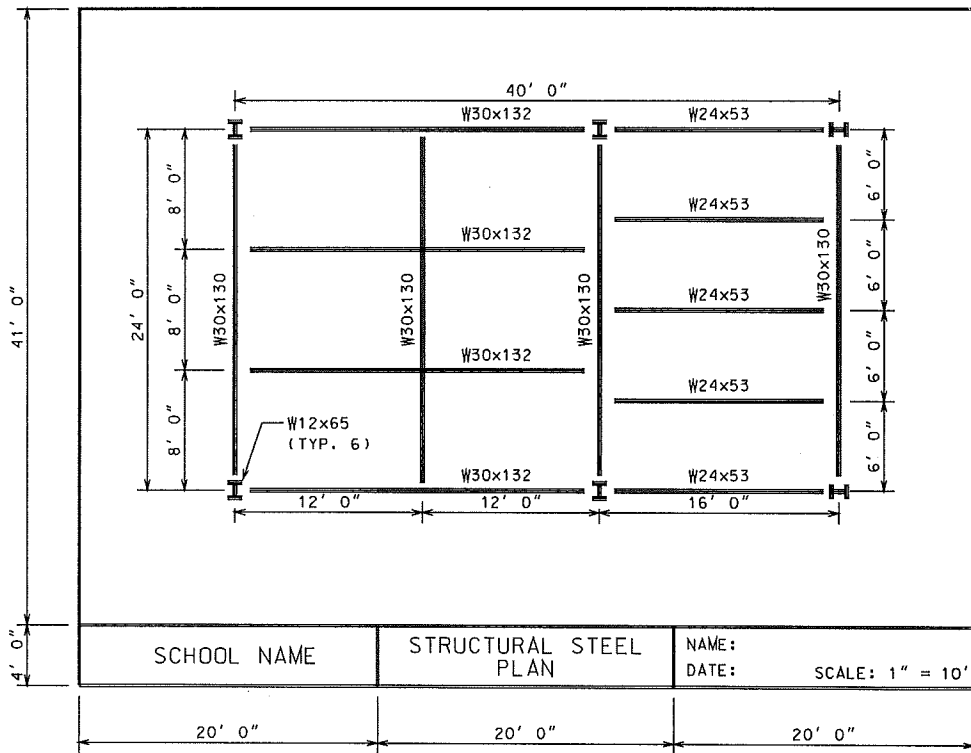

Figure P6-1 Completed project design
This project exercise provides systematic instructions for creating the design shown in Figure P6-1. The intent is to guide you in applying Element Selection and Fence manipulations.
Note: The text and dimensions placed on the structure and members are not part of this project. They are included in Figure P6-1 as an aid to drawing the design.
STEP 7: Using Figure P6-1 as a guide, draw the border and title block on level Title Block.